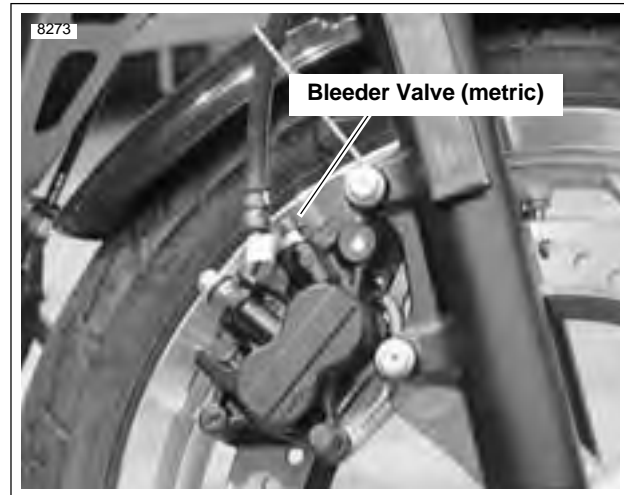

Figure 2-26. Draining Front Brake System
1. See Figure 2-26. Drain brake fluid into a suitable container. Discard used fluid according to local laws.